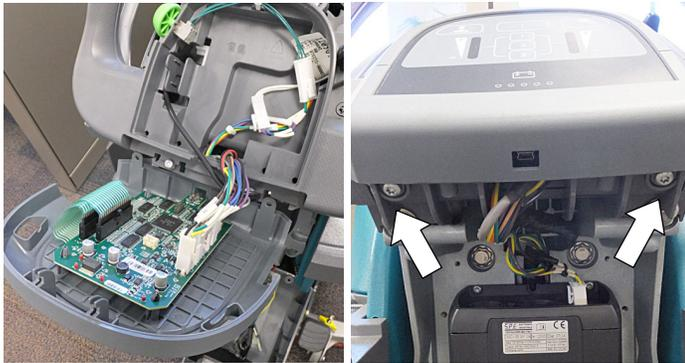

Fig. 6
- Connect the wire harness connectors and antenna to the new bezel assembly and attach bezel to machine (Figure 6). When handling the new bezel control board, it is recommended to use a static wrist strap to protect the control board from damage.